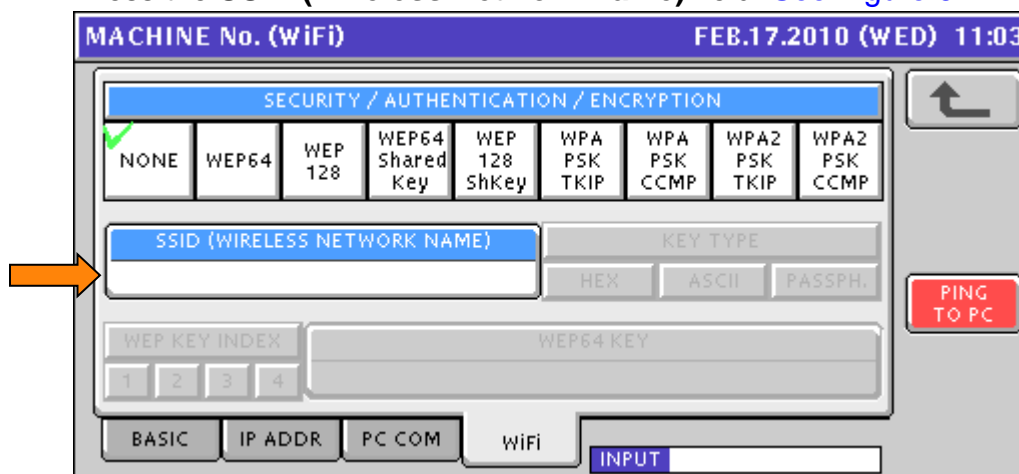

Figure 62. Initial WiFi (Wireless) Configuration Screen
- e. Select the **WiFi** tab. See Figure 62.
- f. Press the **SSID (Wireless Network Name)** field. See Figure 62.